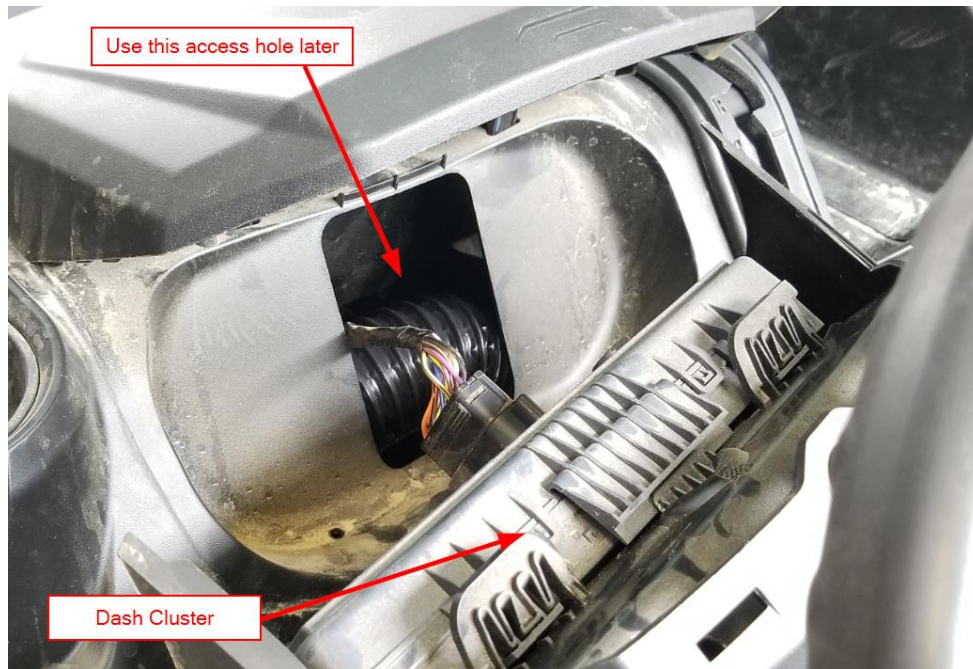

Figure 7
- h. Pull the dash cluster forward as shown in Figure 6 and Figure 7.